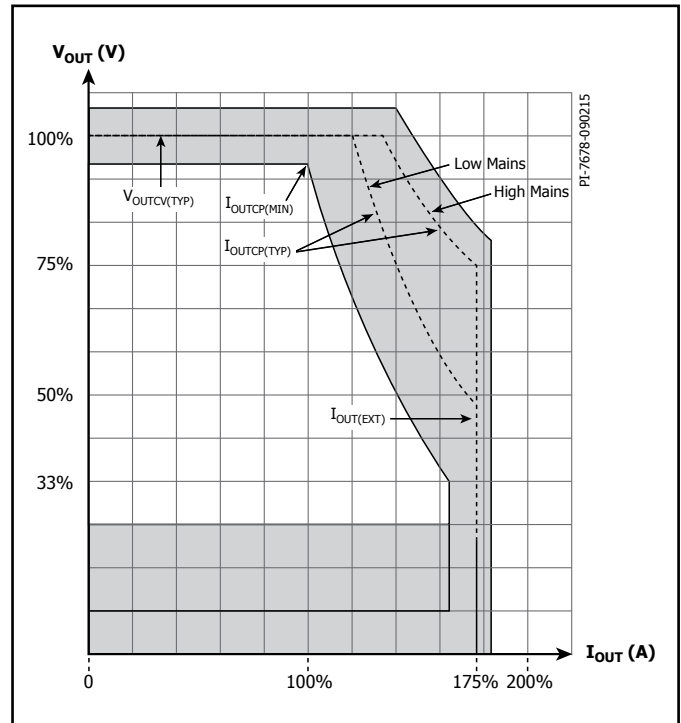

Figure 52. Typical LNK4214D and LNK4215D CP Output Characteristic.
In addition to EasyStart, LNK4214D and LNK4215D devices have a constant power section to the VI curve, see Figure 52. This feature is intended to further improve start-up into large capacitive loads (5000 μ F at 12 V). At start-up, the constant current (CC) pull-up set point of the VI characteristic (bottom right of Figure 52) is set by the transformer turns ratio, the value of R_{CS} and the value of the device parameter $V_{CC(SC)}$. The value of $V_{CC(SC)}$ is about 75% higher on LNK4214D and LNK4215D compared to LNK4014D and LNK4115D, so for a given transformer and R_{CS} value the CC level, $I_{OUT(EXT)}$, will be about 75% higher than the standard CV/CC VI curve parts, providing an extra 75% of start-up current into the output capacitance and aiding a successful rapid start-up. As the output voltage rises, the controller regulates in CC mode until it is above approximately 50% of the design CV level. It then operates in a power limited (CP) mode until the voltage reaches the design CV set point, at which point it changes to CV mode regulation. I_{OUT} at this point, $I_{OUT(CP)}$, will be greater than 57% of $I_{OUT(EXT)}$. The exact trajectory is somewhat dependent on the HT level (mains input level). This is due to the controller operating in open loop mode over the CP section of the VI curve i.e. feedback is not effective during this section, so inaccuracies due to efficiency variation over the CP section and mains input level are not corrected. Hence there is no single CP curve for a design, but minimum and maximum curves between which the actual curve will lie, see $I_{OUT(CP)}$ for Low Mains and High Mains in Figure 52. The constant power value is set by the full load switching frequency parameter F_{SW} , the primary inductance, the peak primary current – set by the device parameter $V_{CS(MAX)}$ divided by the value of R_{CS} , and the conversion efficiency. Due to the open-loop mode of operation on the CP section, tolerances in primary inductance, switching frequency, R_{CS} , $V_{CS(MAX)}$ and V_{CSCC} play a significant part in the accuracy of the CP section of the VI curve. This must be factored in when undertaking the design of a CP application.
The first step is to use the LinkSwitch-4 PIXIs tool to design the transformer and component values for a CV/CC equivalent to the CV/CP circuit. The important consideration is to have the CV/CP circuit be able to provide at least the specification label output current at the label output voltage to the load i.e. $I_{OUTCP(MIN)}$ in Figure 52 must be equal or greater than the label current across component tolerances. Worst-case, this means that 15.5% must be allowed for. In practice, 10% should be acceptable mainly due to parameter tolerance safety margins in the chip and the statistics of getting the worst case values on the same board.
The LNK4214D and LNK4215D have a modified value for V_{CSCC} . It is higher so that the circuit will reach the power limited CP condition before the CC condition and provide the VI curve given in Figure 52. What is required is a new value for R_{CS} to allow $V_{CS(MAX)}$ to be reached when the output is delivering the current entered in [B10], I_{CC} at V_O . This can be calculated from the formula: